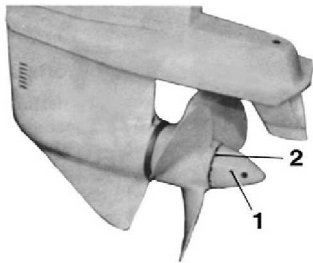

Fig. 2.
1. Remove the propeller by knocking up the tabs on the lock washer 2, Fig. 2 for the propeller taper 1 and unscrewing the taper. Take off the propeller and the spacing sleeve (33, Fig. 59).